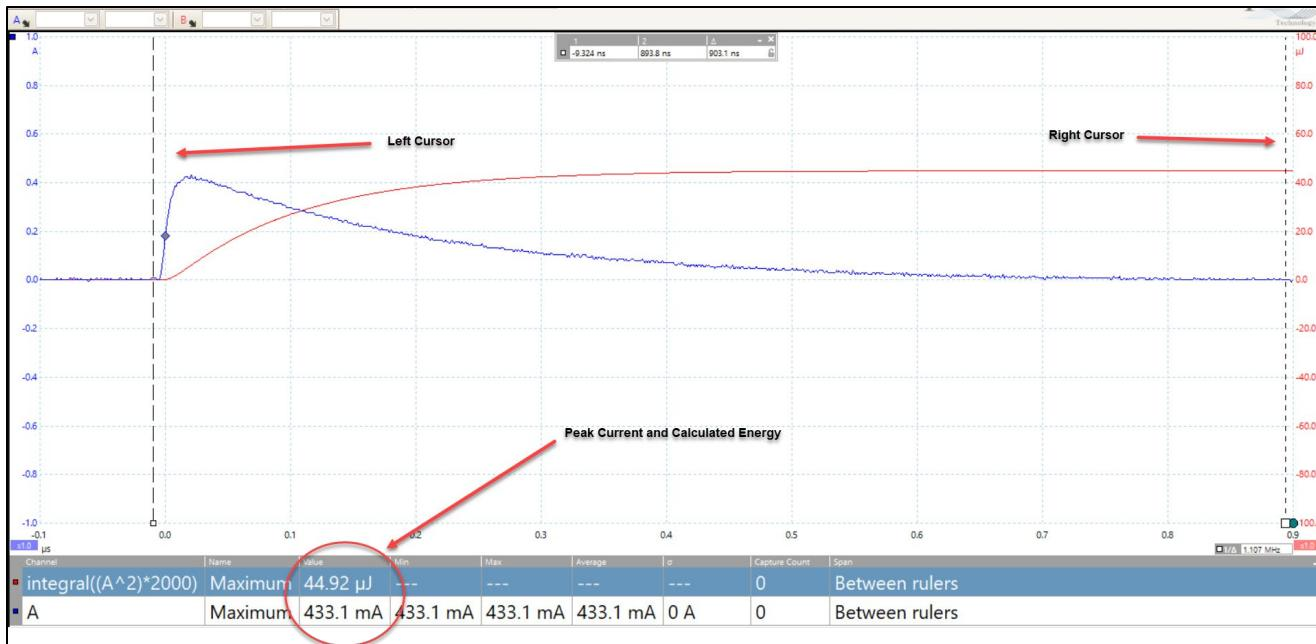

Figure 9. Screenshot of the PicoScope® 6 Software measuring the energy.
15. Using the computer mouse drag the left scope cursor (vertical dotted line) to the left of the discharge waveform start and the right cursor to the point where the waveform decays to zero. The calculated energy should be  $50 \pm 6 \mu\text{J}$  (microjoules) and the peak current should be greater than 420 mA (milliamps 0.42 amps). The blue line is the discharge waveform and the red line is the calculated energy curve in microjoules (Figures 9 and 10).